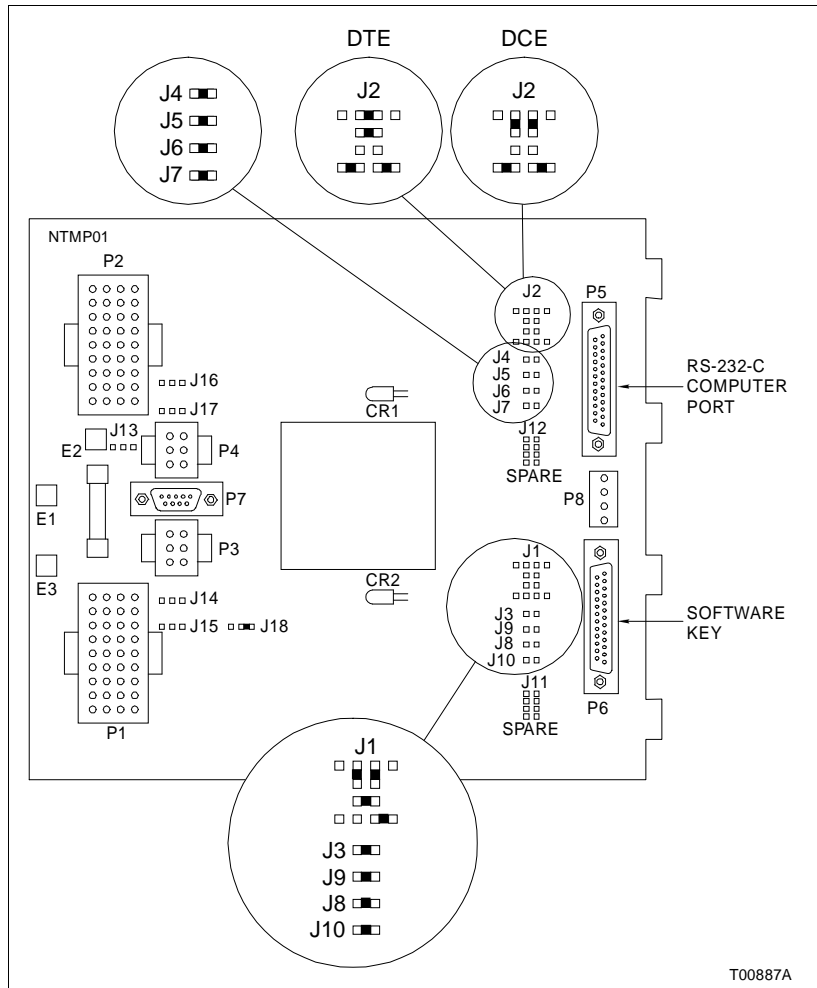

Figure N-1. NTMP01 Connector Assignments and Jumper Settings
1. For the software key, set jumpers J1, J3, J8, J9, J10 and J18 on the NTMP01 termination unit as shown in Figure N-1.
2. Connect the male end of the software key to the port labeled P6 (printer port) on the NTMP01 termination unit. Refer to Figure N-1 for the location of P6.
3. For the computer port, set jumpers J4, J5, J6, and J7 as shown in Figure N-1.
4. Determine the requirements of the application and set up the termination unit as DTE or DCE equipment by setting J2 accordingly. Refer to Figure N-1 for J2 jumper settings.